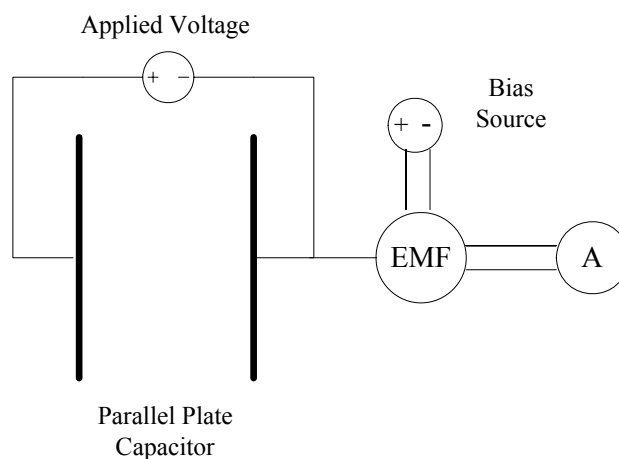

Figure 2: Experimental set-up
1. The experimental setup is as shown in Figure 2. Adjust the plate spacing to $d=10$ cm. The electric field meter should be zero-balanced with a voltage of zero.
3. Plot a graph of the data of step (2). On the same graph paper, plot the theoretical graph based on equation (2) and compare the theoretical and experimental graphs.
5. Plot a graph of the data of step (4). On the same graph paper, plot the theoretical graph based on equation (2) and compare the theoretical and experimental graphs.